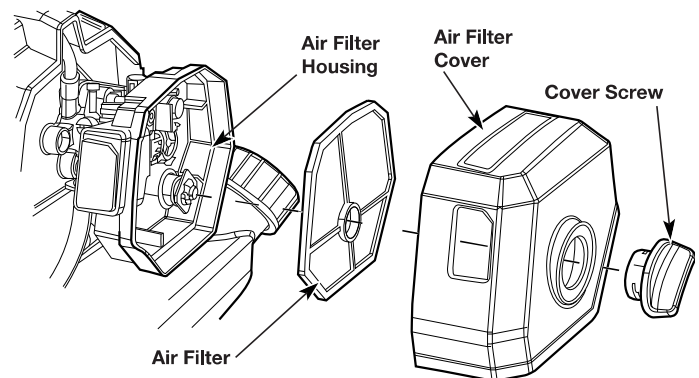

Fig. 25
1. Unscrew the cover screw completely. Remove the air filter cover from the air filter housing (Fig. 25).
4. Reinstall the air filter in the air filter housing (Fig. 25).
5. Insert the tab on the air filter cover into the hole in the air filter housing. Push the air filter cover back onto the air filter housing. Insert the cover screw into the air filter cover. Tighten the cover screw to secure the air filter cover (Fig. 25).